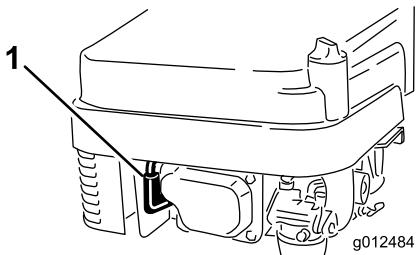

Figure 18
- Connect the wire to the spark plug (Figure 18).